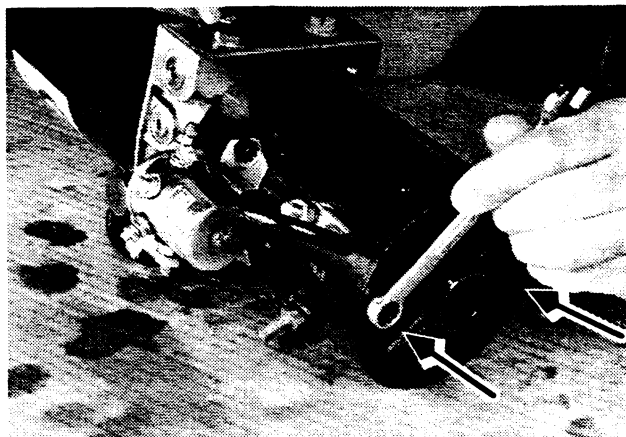

Figure 6-123: Securing the Motor and Adapter Body
6. Insert the screws into the motor end plate, through the motor and into the adapter body. See Figure 6-123.